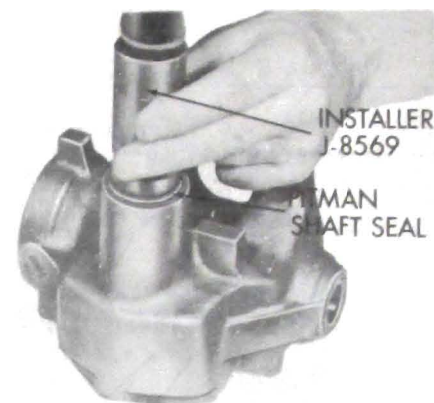

Figure 90-12 Installing Pitman Shaft Seal
8. To protect pitman shaft seal from damage, cover shaft splines with masking tape. Slide new seal into place and seat seal flush with surface of housing using Installer J-9540. See Figure 90-12.